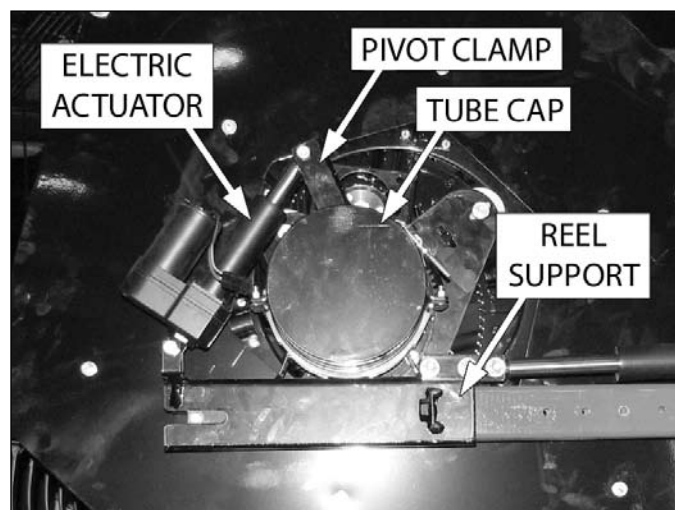

Figure 31, Manifold tilt
1. Slide the pivot clamp assembly over the LH end of the manifold, and position it next to the reel support weldment (Figure 31). Do not tighten the clamp at this time.